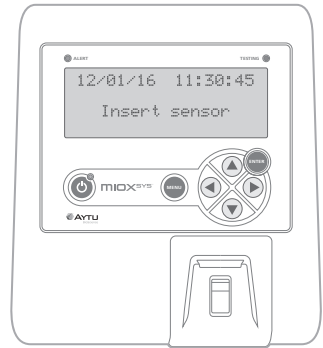

Figure 1
- When the MiOXSYS Analyzer is ready, “Insert sensor” will appear on the display screen (Figure 1).